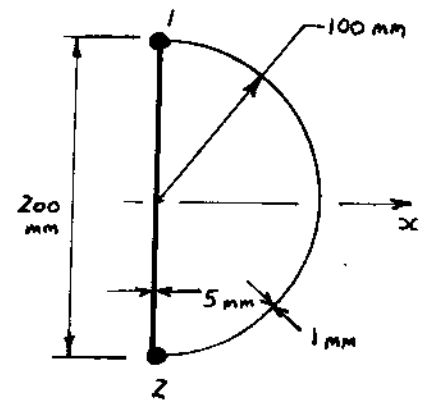

FIGURE 4
- 4) The thin walled cross-section shown in Figure 4 has the following properties: